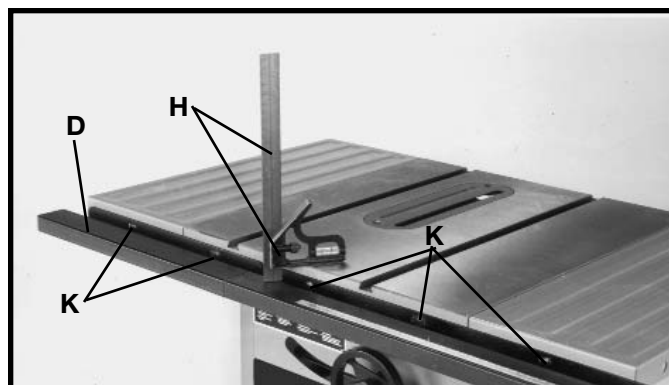

Fig. 25
4. Using a square (H) Fig. 25, or a ruler, adjust guide rail (D) so it is 13/16" from top of table along the entire length.